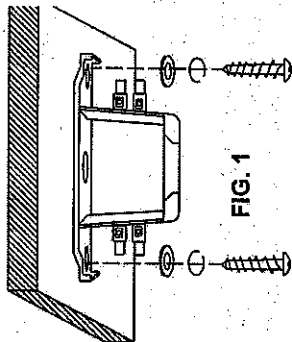

FIG. 1
- Secure the hanger bracket to joist with wood screws, rubber and steel washers. Please make it is firmly, it maybe caused the fan falling down if the hanger bracket doesn't screw tight enough. (See Fig. 1)/page 5.